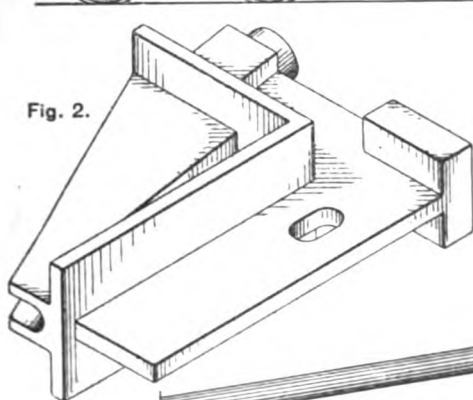
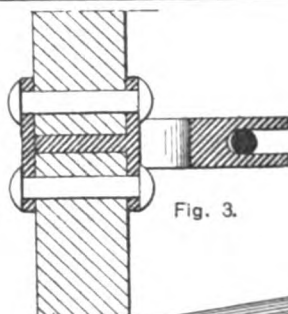
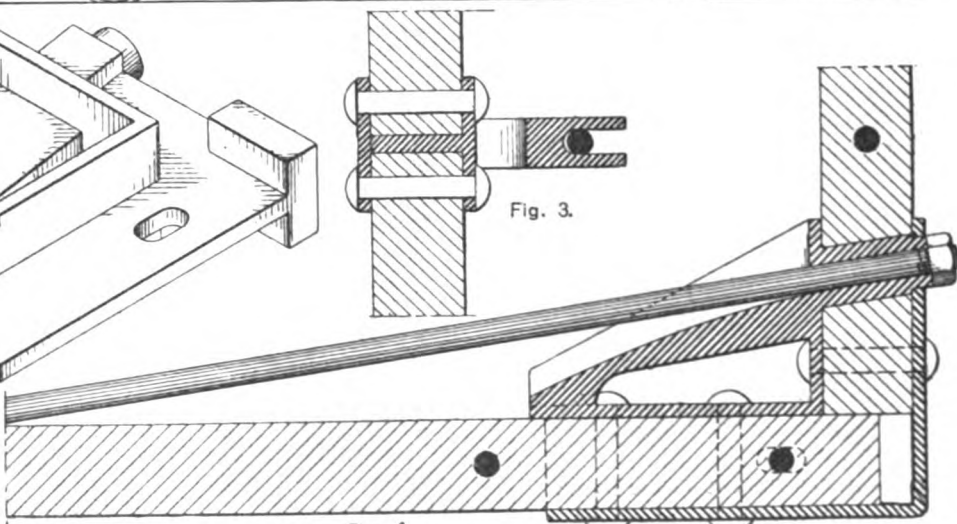

Fig. 2.
Fig. 3.
Fig. 4.
Fig. 1 is Side-Body of Car with Truss-Rod in Position. Fig. 2 is a Perspective View of the Anchor-Block (casting) for Side-Body Truss. Fig. 3 is a Sectional View of the Anchor-Block (casting). Fig. 4 is an Enlarged Sectional View of the Truss, when in Position, also of the Anchor-Block (casting).
**See: CAR FURNISHINGS, GAS LAMPS AND LIGHTING. FIGS. 3,160-3,251 of this Dictionary**